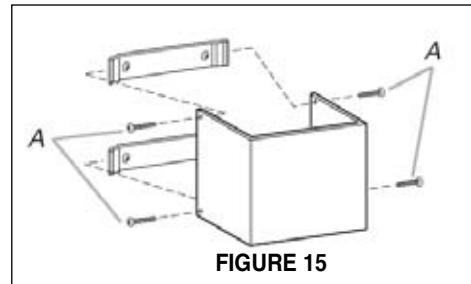

FIGURE 15
2. Install the upper chimney (**see FIGURE 15**) Slightly spread the sides of the cover apart and hook them behind the chimney mounting brackets. Attach the cover to the brackets with 4 mounting screws.